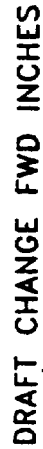

Figure 7-7
- i. Predicting changes in trim due to adding, deleting, or shifting weight about the cutter, is done by using the stability booklet's Trim Table. The table consists of a simplified profile view of the ship with a graph below the various compartments that indicates how much a standard weight placed in that space will affect draft. For example, in **Figure 7-7** we see that if a 133' WLM loaded 2.5 tons into the forward hold, the draft change would be determined as follows:
- (1) The Trim Table shows that a 5-ton addition to the forward hold would increase draft forward by 2.1 inches and decrease draft aft by .5 inches. Since the weight in the example is one half of the standard 5-ton weight, the change in drafts will be one half of the charted change, or an increase of 1 inch forward, and a decrease of .25 inches aft. Trim will change .75 inches down by the bow.
- (2) You must remember that this table is based on additions or removals of weight. If an existing weight is shifted, subtract it from its old position, then add it in its new position if an accurate determination is desired.
- i The change in the vertical center of gravity (KG), is another important measure of vessel stability. The maximum and minimum KGs for a certain cutter have been determined by the designer and personnel must ensure that these limits are not exceeded.